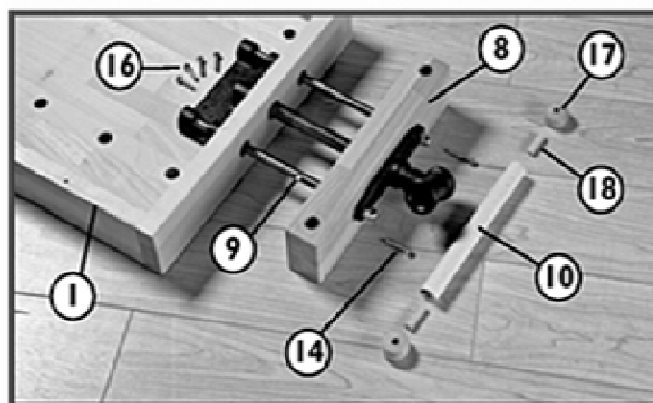

Fig. 4
4. Slide the Vice Assembly (9) through holes in the Vice Face (8) and Bench Top (1). Secure Vice assembly to the Bench Top with four 6x30mm cross-head wood screws (16) and to the Vice Face (8) with two 6x40mm cross-head wood screws (14). Feed the Vice Handle (10) through the Vice Assembly (9) and attach Handle Ends (17) with Dowels (18) and Glue (20) (Fig.4). Repeat this process to attach the other Vice Assembly to the front.